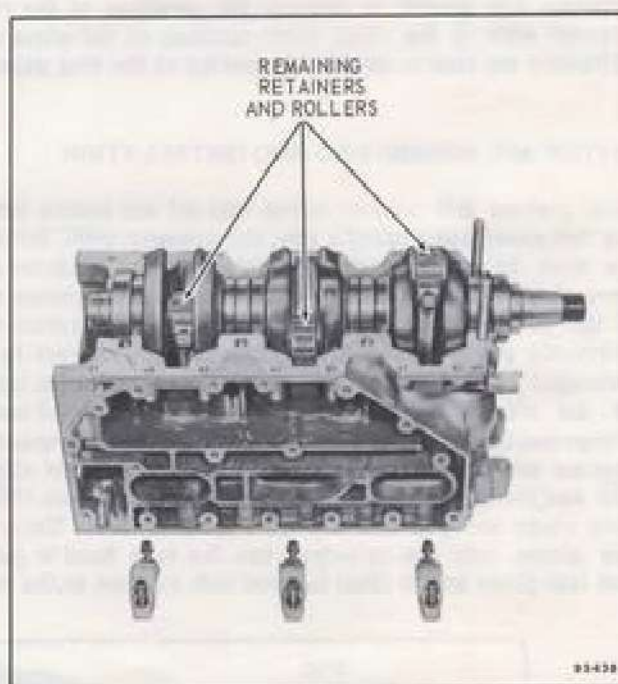

Figure 5-38. Roller Bearings and Retainers
- e. Apply a coat of OMC Needle Bearing Grease to crankpins. Install 2 roller bearings and remaining retainer half on each crankpin. Place the remaining 7 roller bearings in each retainer. See Figure 5-38.